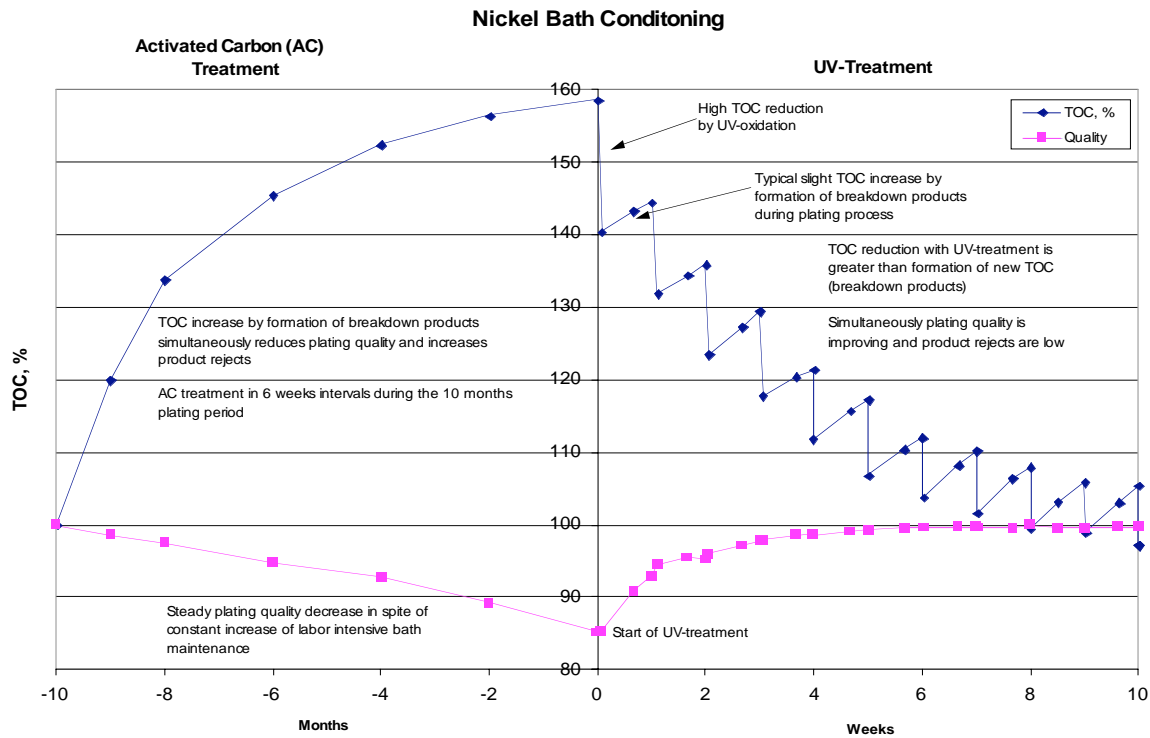

Figure 2: Left: Increase of TOC due to buildup of breakdown products and decreasing plating quality with increasing TOC concentration in plating bath.
In 1998, eight (8) years ago, a.c.k. installed their first Enviolet®-UV-Oxidation process at Hansgrohe AG in Germany, which is a major faucet manufacturing company worldwide. The traditional activated carbon treatment process just could not any longer sustain the bright-nickel bath purification requirements. It was not a dependable process and lacked repeatability. Shortly after startup of the UV-Oxidation process the quality of nickel deposition was substantially improved and after six (six) months of continuous bath treatment the bath performance showed results equal to a fresh prepared plating bath; exceptionally good leveling and optimal throwing power (see Figure 2 and Table 1). At that moment activated carbon treatment was eliminated and the system was upgraded with a second UV reactor for additional capacity (see Picture 1).